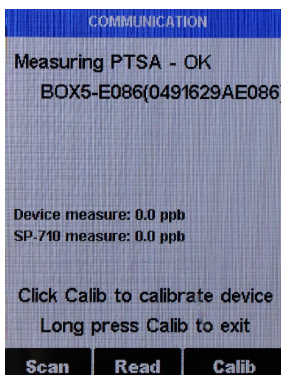

Figure 11.
11. Press **Read** () to see PTSA measurement from the SP-350 along with the probe measurement (Figure 11).